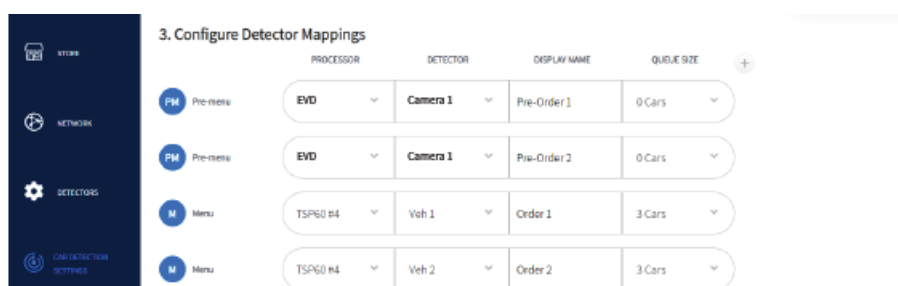

Fig. 5.7
- Scroll down to Configure Detector Mappings. You will see the Pre-Menu EVD included. See top two rows of Fig. 5.7. Click the Save button to save changes.